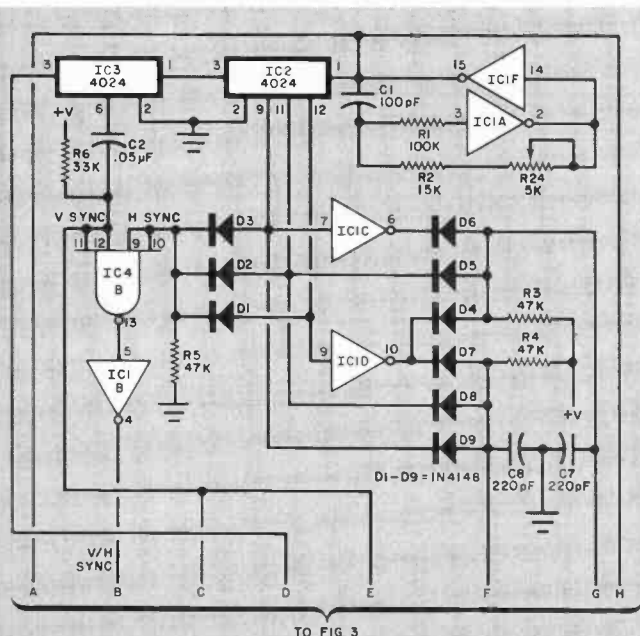

Fig. 2. Sync pulses and timing are generated by this circuit.
**Circuit Operation.** The sync and horizontal timing circuit is shown in Fig. 2. Basic timing is performed by two inverters in IC1, which is wired as an oscillator operating at a nominal 122.88-kHz frequency. Resistor R1 in-